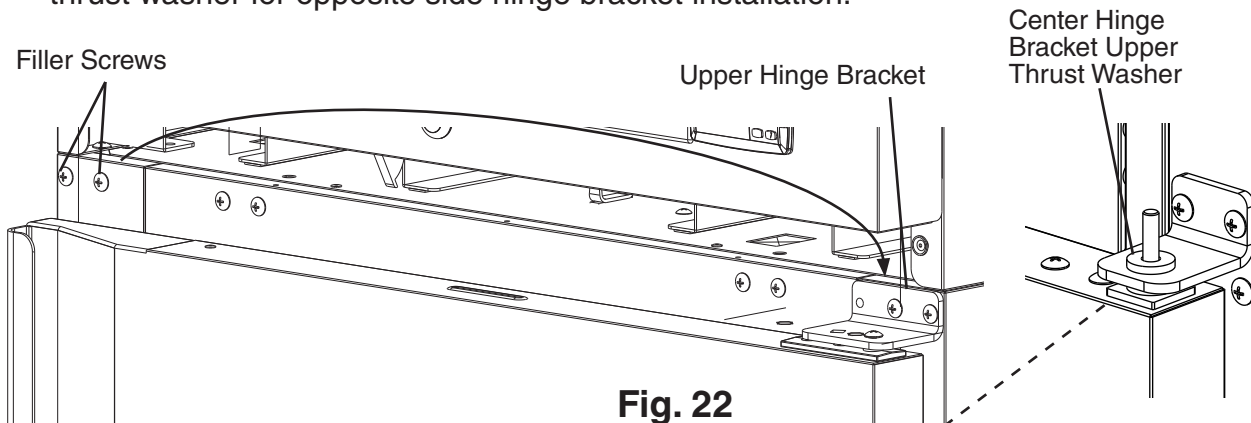

Fig. 22
- 3) While maintaining a hold on the upper door, remove the upper hinge bracket then lift the door off the center hinge bracket. See Fig. 22. Retain the upper center hinge bracket thrust washer for opposite side hinge bracket installation.